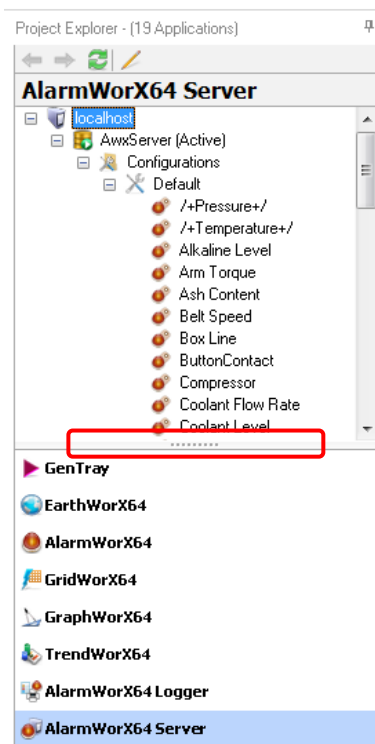

Figure 8 - Using the AlarmWorX64 Server
1. Start the **GENESIS64 Workbench** and select the **AlarmWorX64 Server** application. The handle (indicated in red in Figure 8) can be moved upwards to expand the list with applications presented.